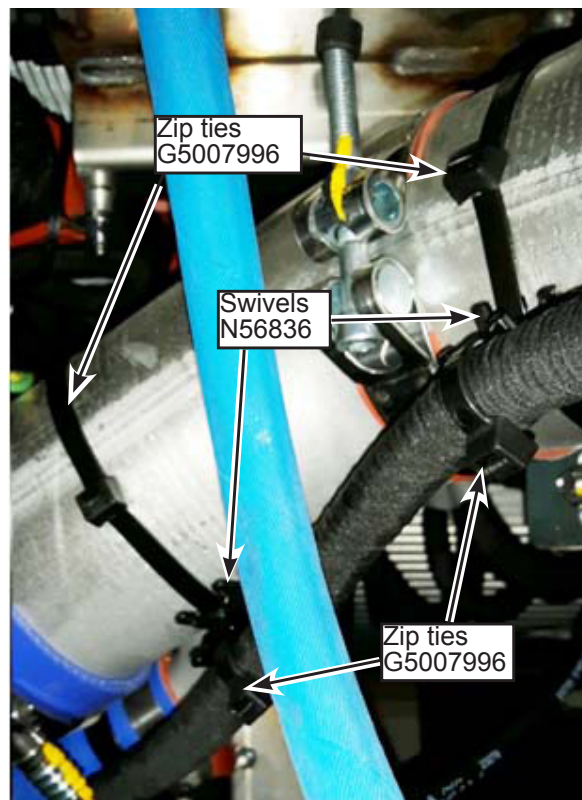

Figure 12 - Attach Wire Kit to the CAC Pipe
1.12. Attach the wire kit to the CAC pipe with four zip ties (G5007996) and two swivels (N56836) (see Figure 12).